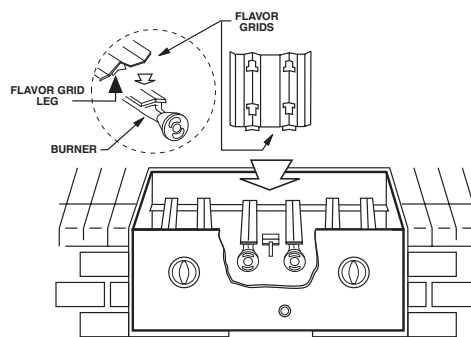

Figure 4 - Flavor Grid Diagram
a. Place the flavor grid directly on the burners (Figure 4). Center the grids over the burners with the open side up. This allows heat from the burners to be evenly distributed throughout the cooking area. Flavor grids heat and cool quickly, making your Fire Magic barbecue very responsive to the changes you specify in grill temperature.